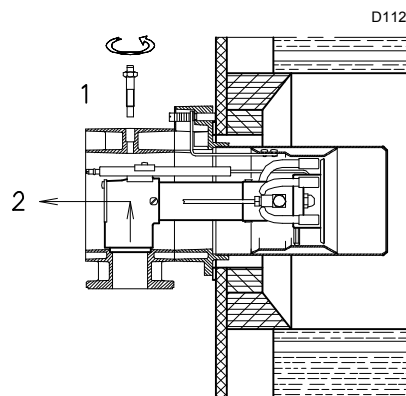

Fig. 15
- Remove the screw 1) and the internal part 2)(Fig. 15).